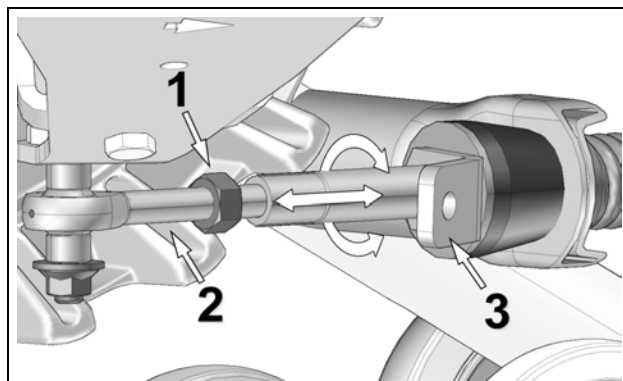

Figure 6
- Loosen jam nut (1). Adjust length of rod end (2) by rotating the steering limiter support plate on (3) the stabilizing arm. Use a 30 mm wrench to rotate support plate and obtain 254 mm above the ground. Refer to Figure 6.